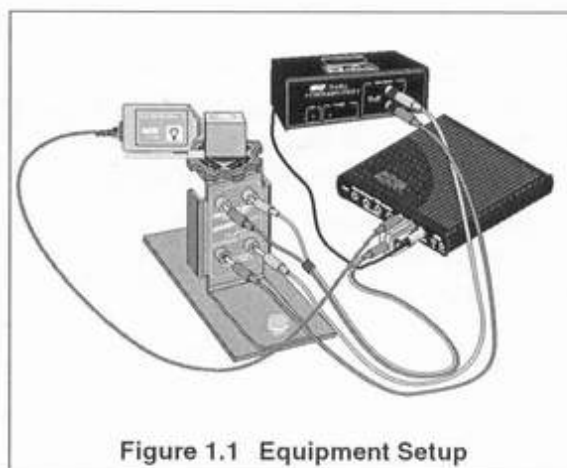

Figure 1.1 Equipment Setup
1. Setup your equipment as shown in Figure 1.1. (See "Experiment Setup" on page 5-6 for instructions.)